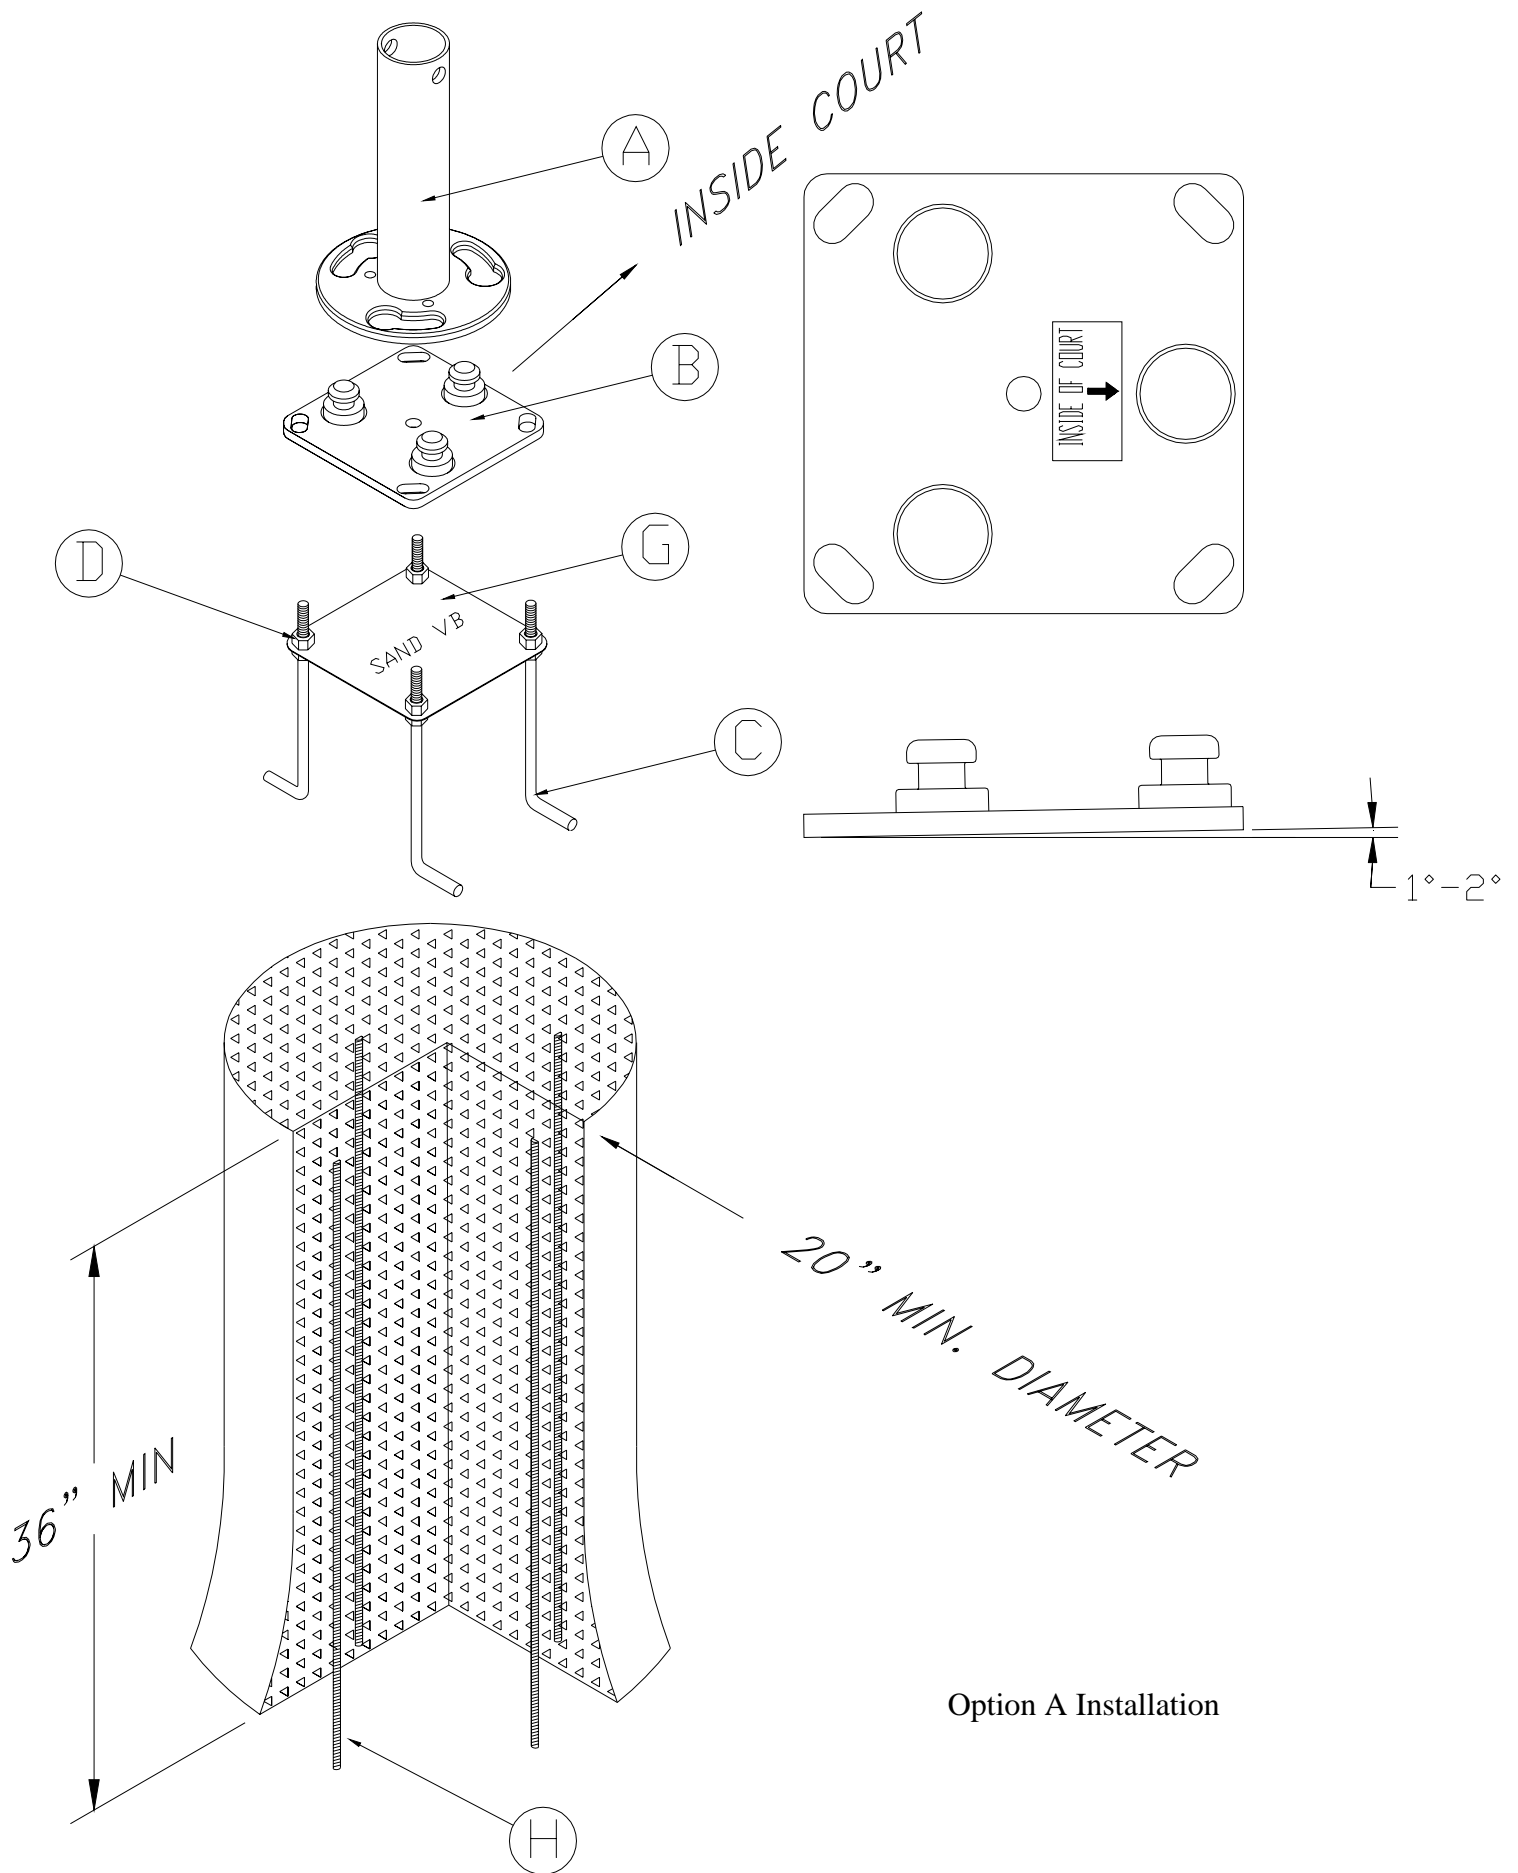
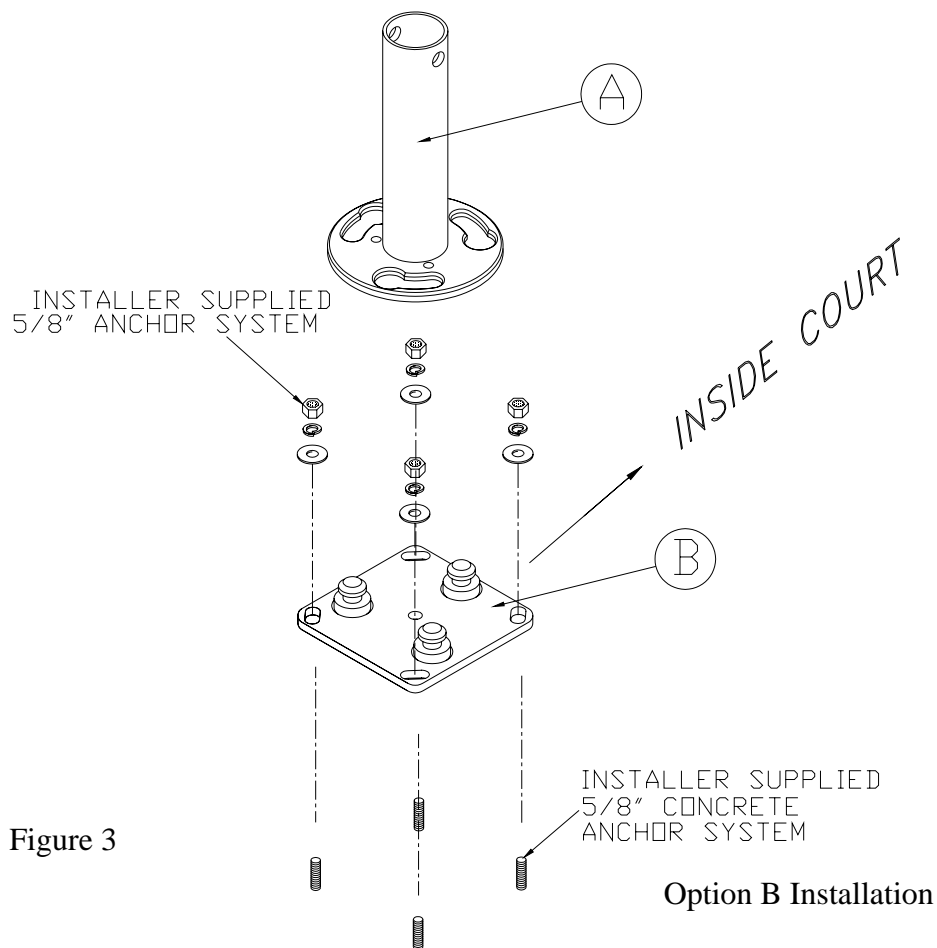

Figure 2
Figure 3
- With sand removed to expose the compacted soil, dig holes at each post location that are approximately 20" diameter, 36" deep. If final sand depth is more than 16" for SVB27, and 12" for SVB23 field construct a 24" square plywood form with the top of the form approximately 16" for SVB27, and 12" for SVB23 from the final playing surface. See Figure 3.
- Assemble the "J" Bolts (C), Template (G), 5/8" Hex Nuts (D), 5/8" Flat Washers (E) and 5/8" Lock Washers (F) as shown. See Figure 2.
- Drive 36" Rebar (H) into the bottom of the hole. Equally space the 36" Rebar (H) so that it forms a square and does not interfere with the "J" Bolts (C).
- A7. Insert the Template/"J" Bolt assembly from #3 above into the wet concrete footing making sure that it is correctly positioned relative to the court. Vibrate the assembly as you insert it so the concrete fills in around the "J" Bolts (C). Make sure the Template is pressed firmly against the surface of the wet concrete and the lower 5/8" Hex Nuts (D) are imbedded into the concrete. See Figure 2.
- A8. Clear all excess concrete from around the *Template* (G) and the exposed "J" Bolt (C) threads and nuts.
- A9. Once the concrete is cured, you may now remove the upper 5/8" Hex Nuts (D) from the "J" Bolts (C) and remove and discard the *Template* (G).
- A10. Place the 5/8" Hex Nuts (D) you just removed back on each "J" Bolt (C) and finger tighten against the nut that is embedded in the concrete footing. Install one 5/8" Flat Washer (E) on the top of each 5/8" Hex Nut (D). See Figure 3.
- A11. Install the *Twistlock Base Plate* (B) over the "J" Bolts (C) making sure that the *Twistlock Base Plate* (B) is properly positioned relative to the court. Place 5/8" Flat Washers (E), 5/8" Lock Washers (F) and 5/8" Hex Nuts (D) on the "J" Bolts (C) to tighten base down. Level the *Twistlock Base Plate* (B) by adjusting the 5/8" Hex Nuts (D) above and below the base plate. Make sure all hardware is tight. See Figure 2 and 3.
- A12. With the *Twistlock Base Plate* (B) permanently installed into the footing, the *Sand Volleyball Socket* (A) can be installed and removed as desired by pushing back the sand from the base that is covered with approximately 16" of sand (SVB27), or 12" of sand (SVB23) and installing the *Sand Volleyball Socket* (A) over the three Lock Pins and twisting until fully engaged. A hole is drilled through the socket wall to help facilitate twisting the socket with a bar when sand or other impediments make rotating difficult. If the footing and *Twistlock Base Plate* (B) have been installed at the correct depth, the *Socket* (A) should extend approximately 4" above the final playing surface.
- B2. Discard "J" Bolts (C), 5/8" Hex Nuts (D), 5/8" Flat Washers (E), 5/8" Flat Washers (F), Template (G) and 36" Rebar (H) as they will not be used in this application.
- B3. Position *Twistlock Base Plate* (B) on concrete floor as shown in Figure 3.
- B4. Anchor *Twistlock Base Plate* (B) into concrete floor using appropriate 5/8" concrete anchoring system (not supplied). Anchor at 4 places per *Twistlock Base Plates* (B).